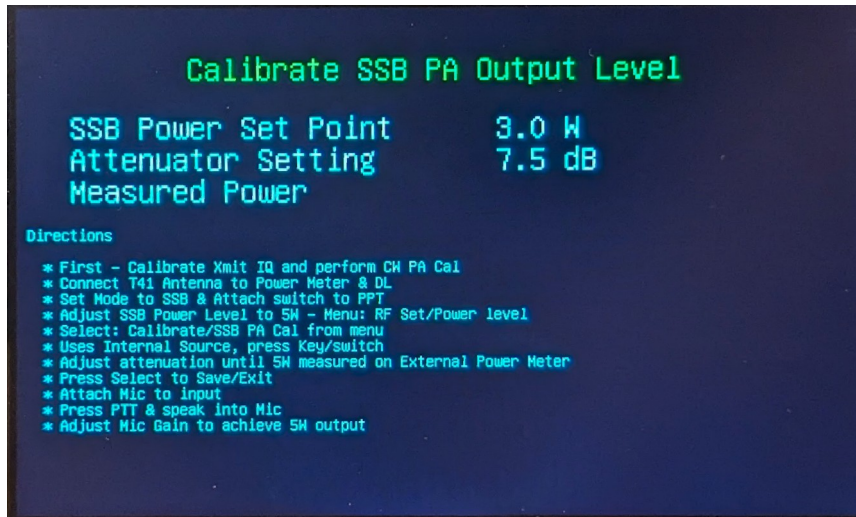

Figure 18 SSB Power Amp Calibration Screen
- Figure 18 shows the SSB Power Calibration screen.